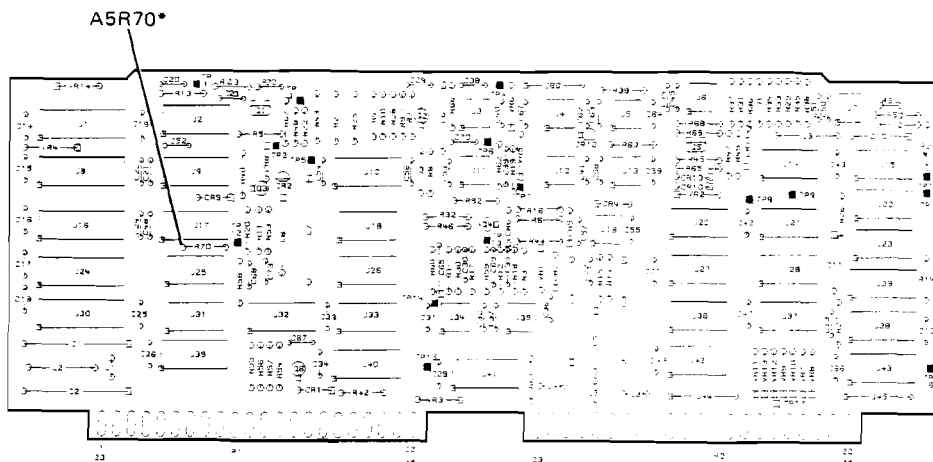

Figure 5-13. Location of Sweep Retrace Time Adjustments.
7. A5R70* is selected to give a counter reading of 15.85 ± 0.20 ms. Refer to Table 5-2 for the range of values allowable for A5R70*. Refer to Figure 5-13 for A5R70* component location.